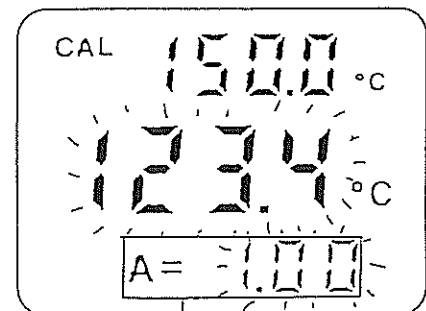

Figure 2
- 3) Using non-contact temperature measurement, measure the surface temperature of the subject body (the measurement value blinks in the main display. See figure 2).